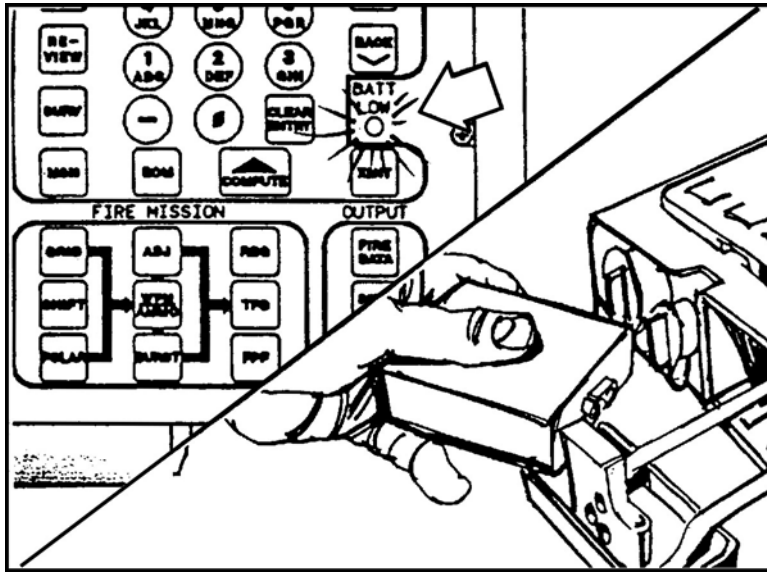

Figure 2. Battery low indicator.
- b. Check the BATT LOW light. If the light is flashing, replace the battery before proceeding with the self-test (Figure 2).